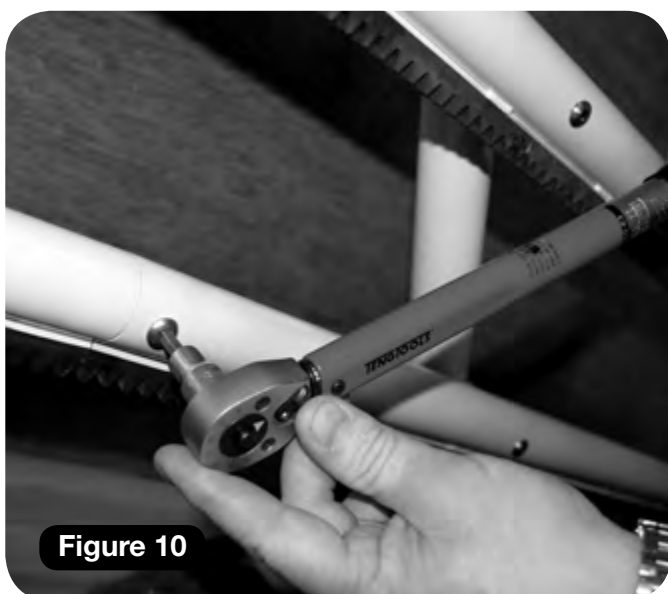

Figure 10
- 6 Add all of the track bolts. These should be hand-tightened to a torque of 25Nm (**Figure 10**).